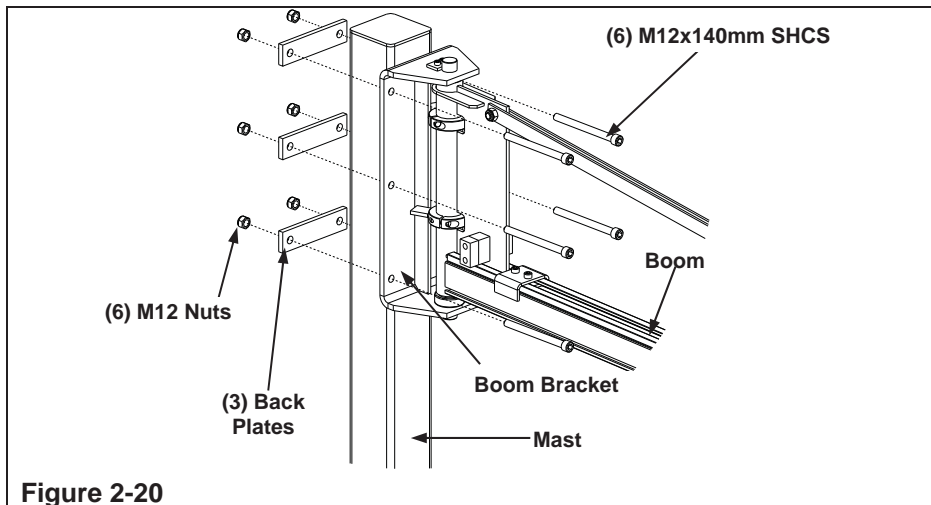

Figure 2-20
- Step 1. Remove the (6) M12x140mm SHCS bolts, nuts, and (3) back plates from the boom bracket. See Figure 2-20.
- Step 3. Align top back plate with the top mounting holes on the boom bracket and tighten the (2) M12x140mm HHCS bolts and nuts. **Tighten until bolt(s) are snug + ¼ turn.** Do not over tighten. See Figure 2-20.
- Step 4. Repeat Step 3 for the middle and lower back plates. See Figure 2-20.